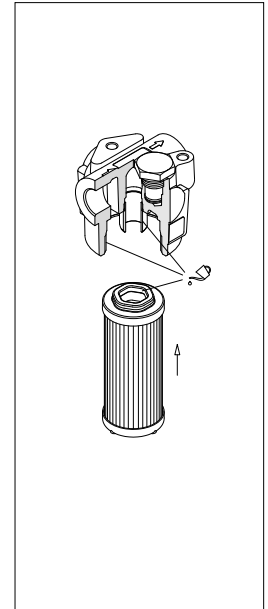

fig. 20
- (Fig. 20) Lubricate with the operating fluid the filter element Hex Ring, the housing tap and cavity, then fit the filter element on the tap. Pay attention not to damage the Hex Ring seal